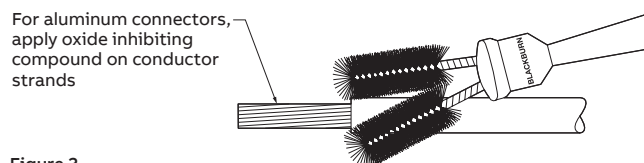

Figure 2
3. Wire brush the conductor strands. If using an aluminum conductor, apply Blackburn® Contax® Type CT or Weaver Type CP oxide inhibiting compound. Fully insert the conductor into connector. Wipe off any excess oxide inhibitor (see Figure 2 & 3).